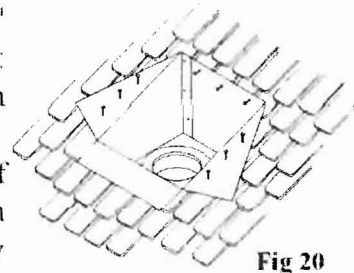

Fig 20
- 3. Install Support Box:** Slip the Square Support Box into the framed opening so the square portion projects at least 2 inches below the finished ceiling and rafters (bottom of round portion is 5" below), and extends above the ceiling to framing or decking materials that it can be nailed to. Level the Support Box, and slit the corners to the roofline where they extend beyond it. Bend the flaps (created by the slitting) flush with the roof, and nail the Support Box to the roof or framing with at least three (3) 8-penny nails, or (3) 1-1/2", #8 screws, per side (Fig 20). Be sure to keep the Support Box level. Screw the trim sections into the ceiling (Fig 6).